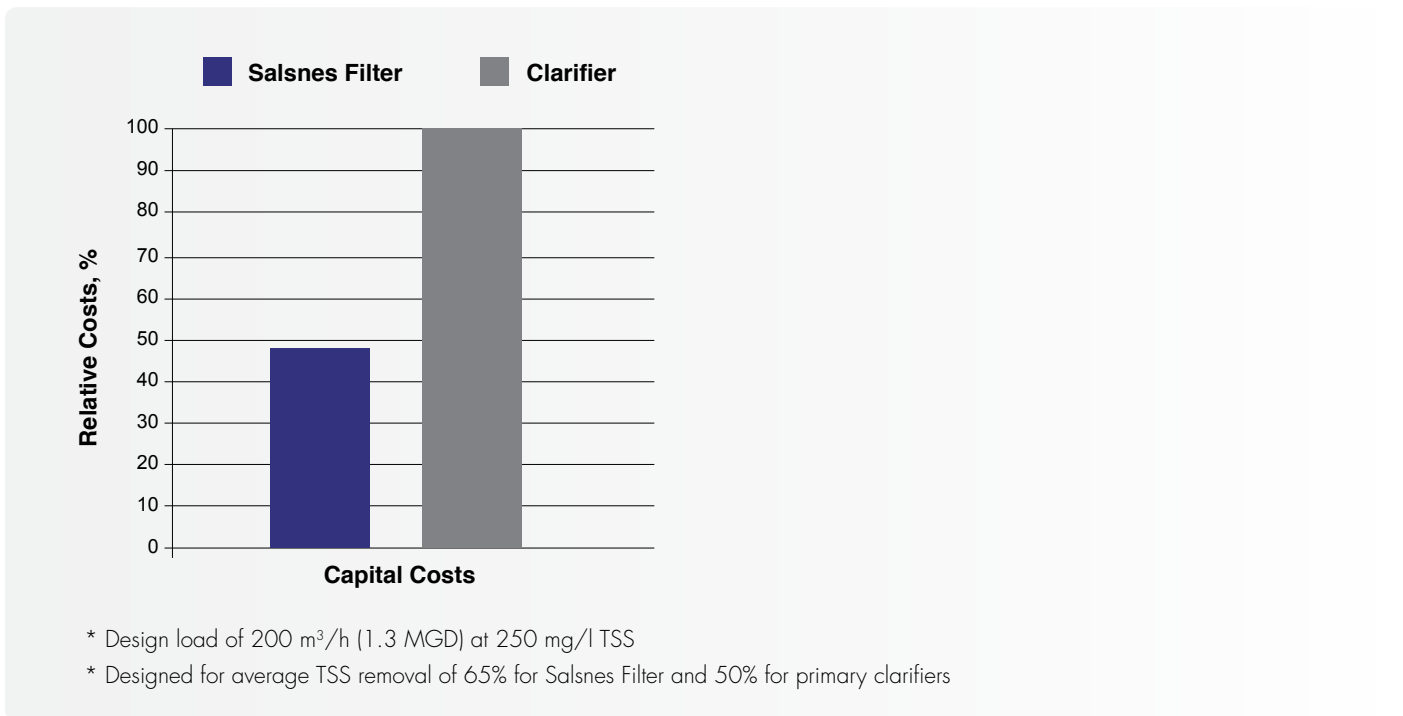

Figure 1. Cost Comparison
- 30 – 60% lower investment cost. See **Figure 1**.